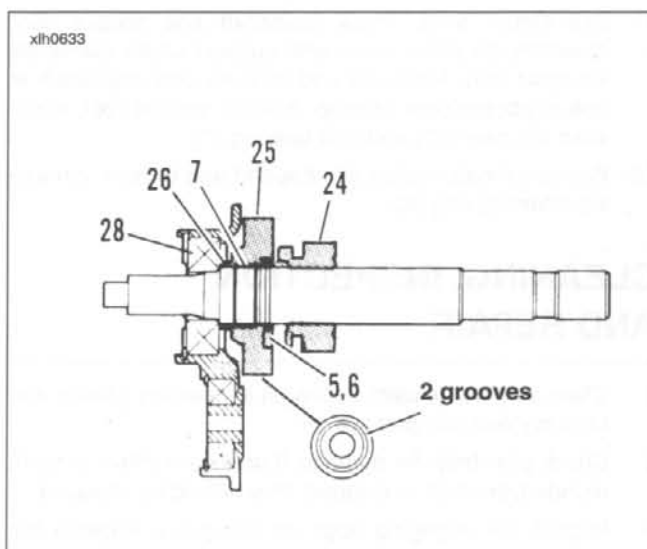

Figure 6-45.
2. See Figure 6-45. Place spacer (26) over mainshaft and position next to bearing (28). Position split bearing (7) into machined seat next to spacer (26). Locate mainshaft 4th gear (25), which can be identified by the two radial grooves at one side. Slide gear (25) onto shaft with radial grooves facing door. Position gear over bearing next to spacer (26).
3. Install thrust washer (6) and retaining ring (5) next to gear (25). It will be necessary to push the retaining ring into final position with a screwdriver.
4. Slide mainshaft 1st gear (24) onto mainshaft with the locking dogs facing gear (25). The shifter fork groove must face the access door.